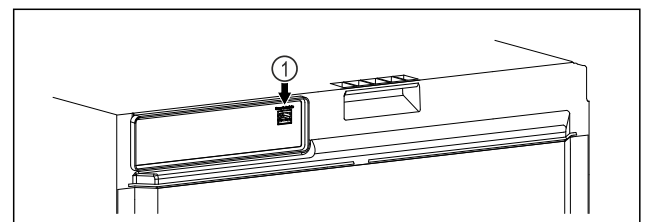

Fig. 100
- SmartModule Fig. 100 (1) has been inserted.